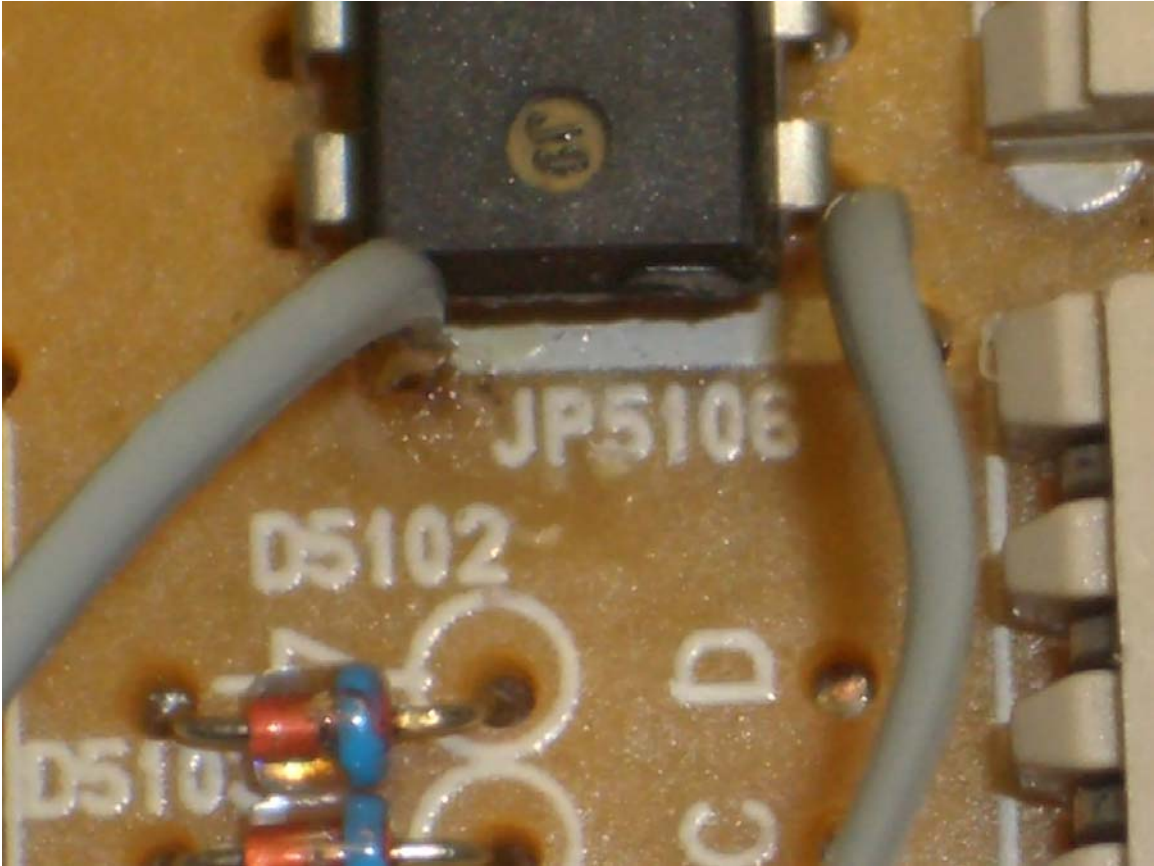

Figure 3-3.
9. Attach wires for new relays Normally Open (NO) contacts to the two sides of the cut jumper as seen in Figure 3-3 above.